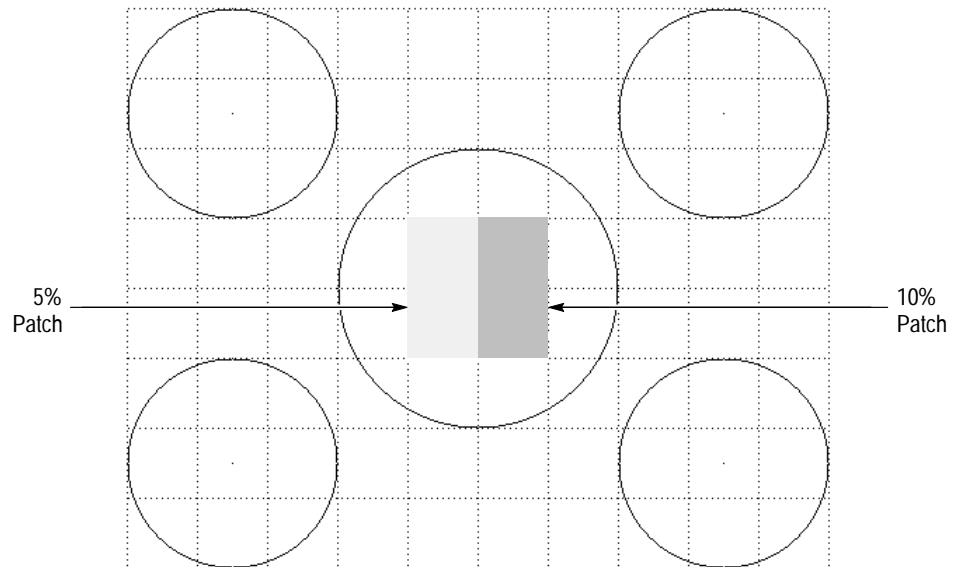

Figure 5–12: Five and Ten Percent Luminance Patches
- Locate R483 (VID. GAIN) on the A26 Monitor assembly (see Figure 5–11).